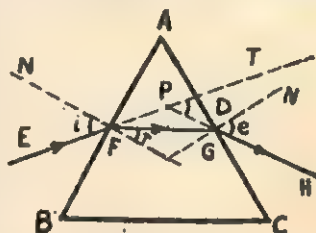

Fig. 11.14. Refraction through a prism.
(1) Read the text under the heading "Points to remember" of §11.01.
(2) Fig. 11.14 represents the course of a ray  $EFGH$  through a glass prism whose principal section is  $ABC$ .  $EF$ ,  $FG$  and  $GH$  are the incident, the refracted and the emergent rays respectively.  $FN$  and  $GN$  are the normals to the faces  $AB$  and  $AC$  respectively. The angle  $i$  and  $e$  are the angle of incidence and the angle of emergence respectively. The angle  $D$  between the incident ray,  $EFT$ , and the emergent ray,  $PGH$ , is called the angle of deviation. If the angle  $BAC$  of the prism be represented by  $A$ , then